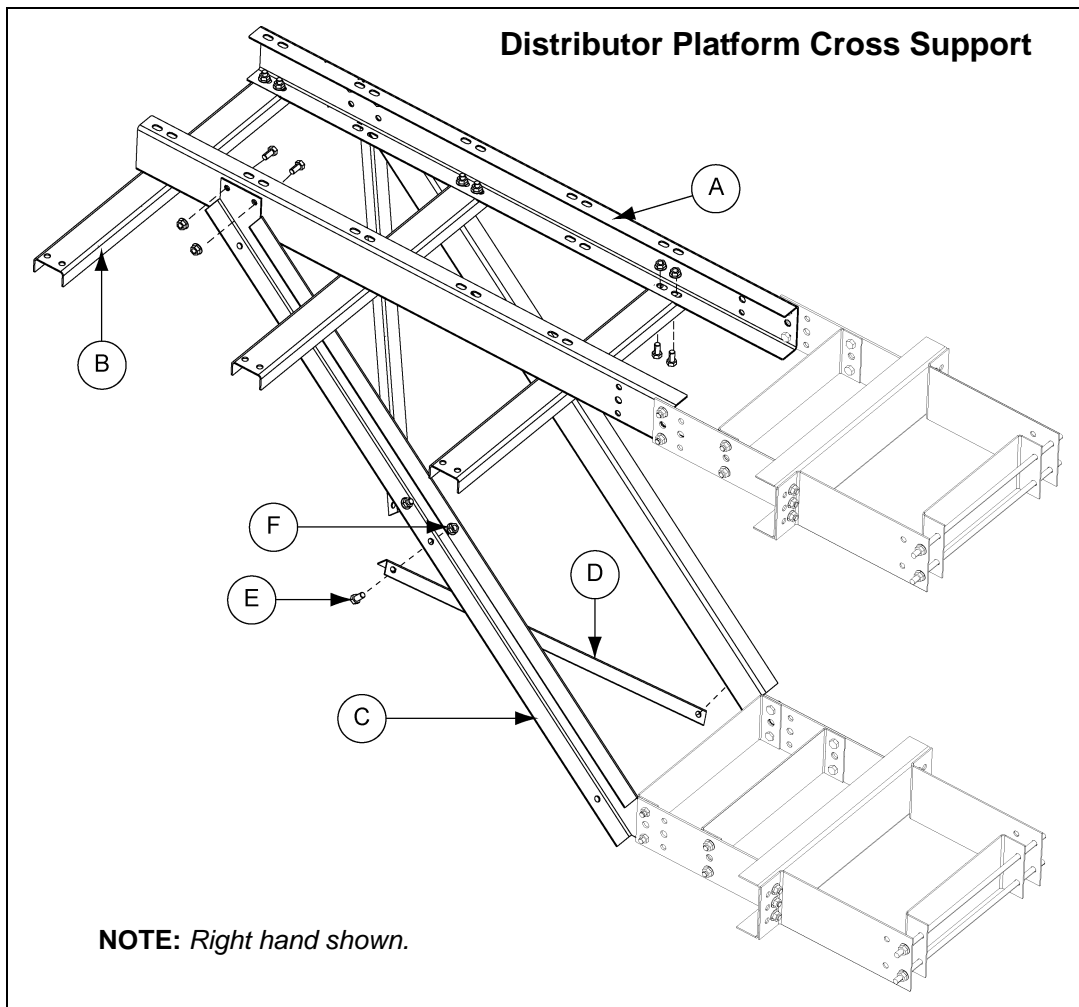

Figure 10E Distributor Platform Cross Support
1. Attach brace channels to the sides of the support channels using four (4) 1/2" x 1" bolts and nuts. Angle the knee braces across the bottom sides of the brace channels and attach using four (4) 1/2" x 1" bolts and nuts.
2. Assemble the cross supports to the bottom side of the support channels using the end and middle sets of holes on the support channels using four (4) 1/2" x 1" bolts and nuts. *(See Figure 10E.)*